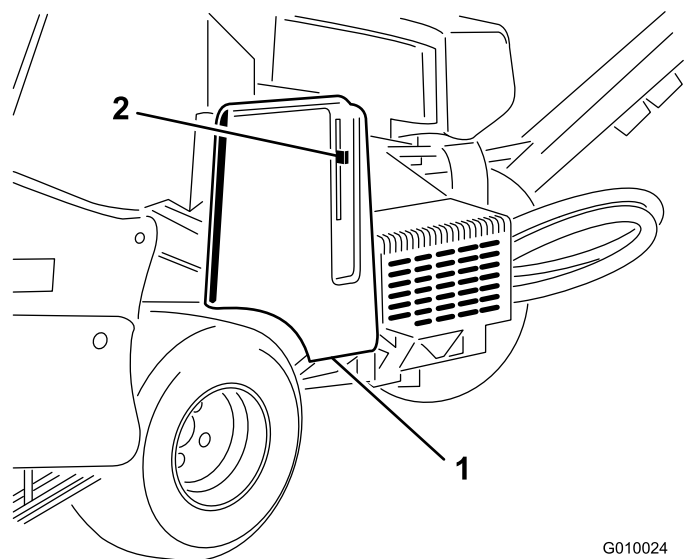
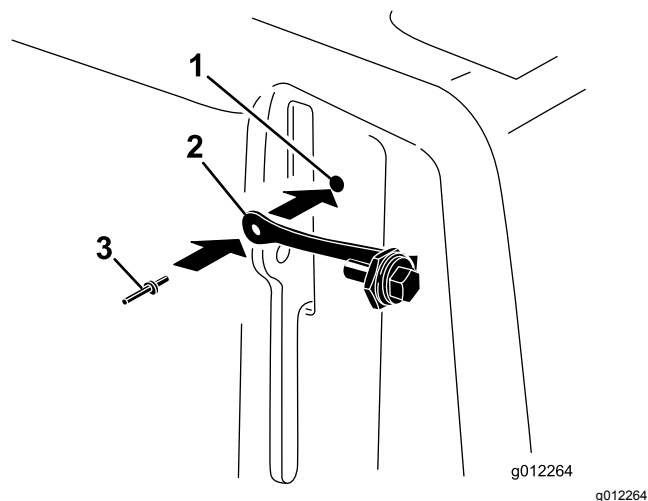

Figure 8
Figure 9
1. Locate the hole in the belt cover next to the latch lever (Figure 8 and Figure 9).
2. Using the hole in the belt cover, install the lanyard assembly with a pop rivet (Figure 9).